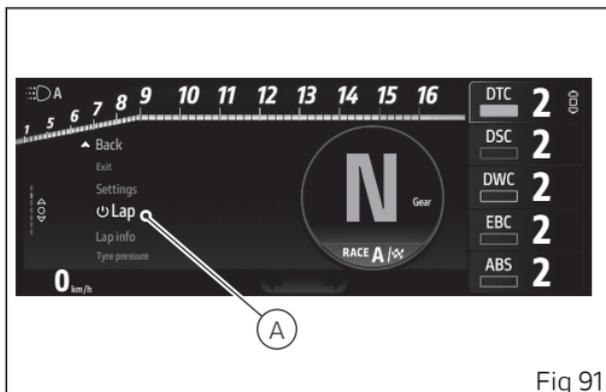

Fig 91
- use buttons  and  to select the "Lap" item (A, Fig 91) and press the  button.